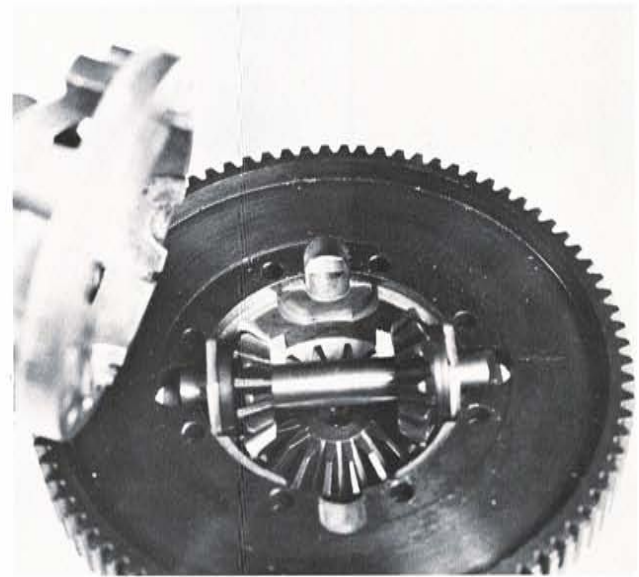

Fig 14
13. Next remove the eight bolts that secure the differential bodies. Lift body off. (Fig 14)